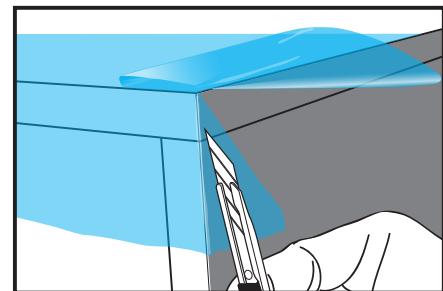

Figure 09
- › Cut any excess matter leaving approximately 1 mm - 2 mm (0.04 in. - 0.08 in.) from the edge, (FIG. 09) then cover the adjacent edge.